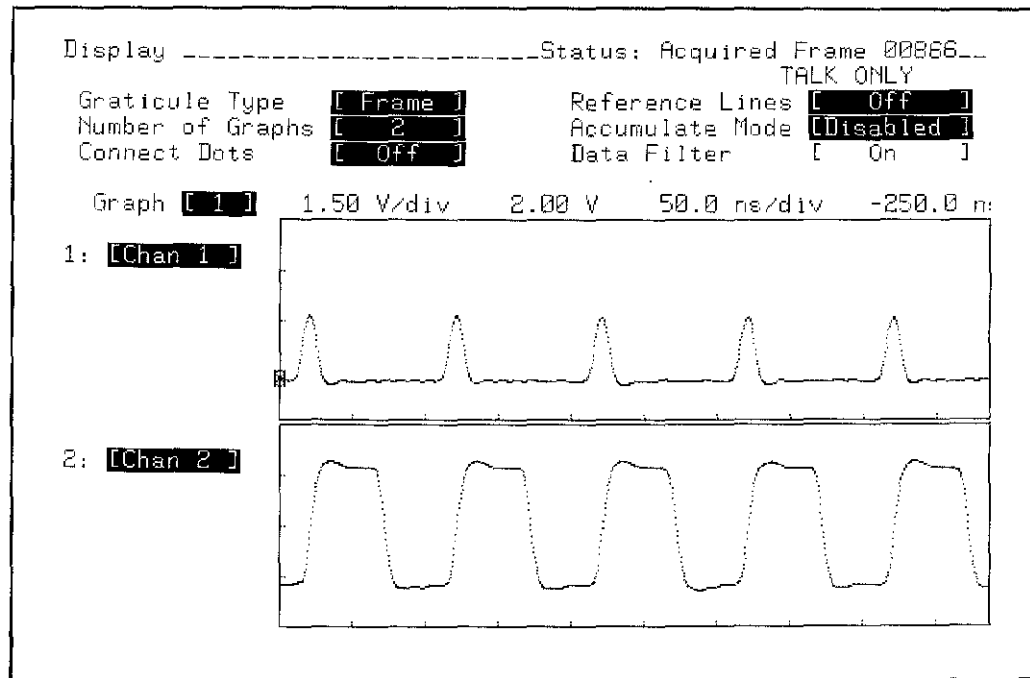

Figure 3-42. DISPLAY Configuration and Minimum Input Test Waveform
10. Configure the display as shown in figure 3-42. The displayed waveforms should appear similar to those shown in figure 3-42.